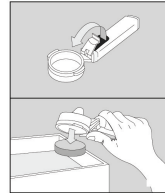

FIGURE 5
18. To remove the used espresso grounds, retain the filter in position using the special lever fitted to the handle. Turn the filter holder upside-down and knock the espresso grounds out. (Figure 5)